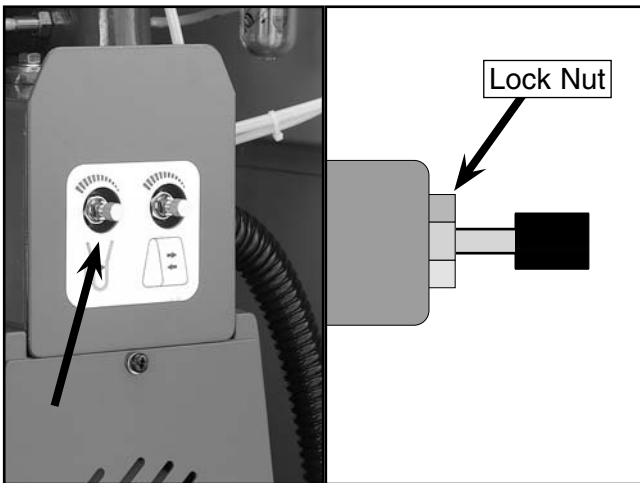

Figure 30. Airflow adjustment knob.
2. Loosen the lock nut on the airflow adjustment knob (**Figure 30**).
5. Tighten the lock nut (**Figure 30**) to secure the airflow adjustment knob.